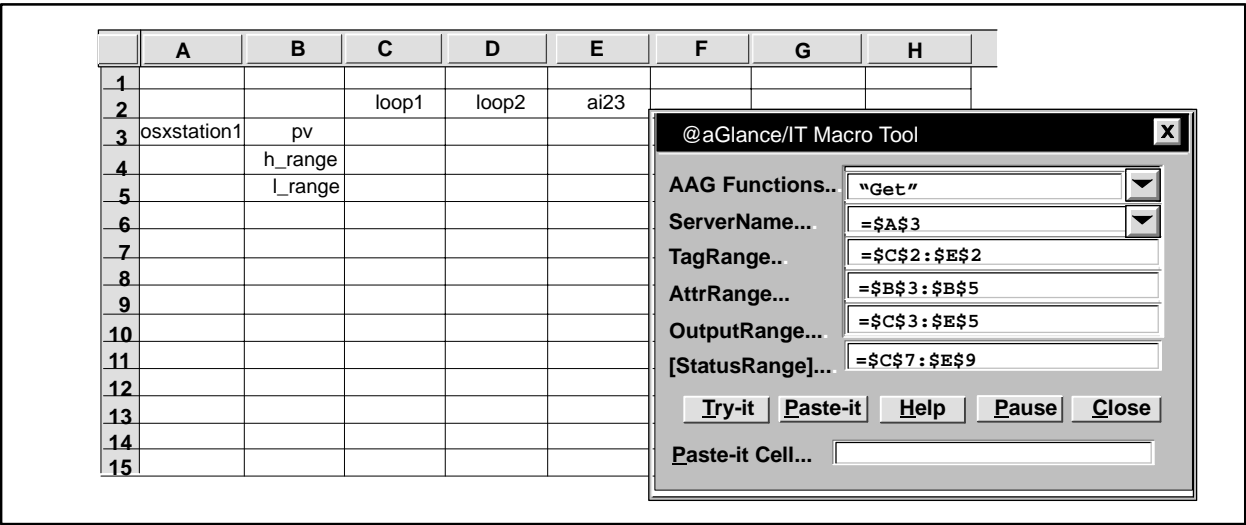

Figure A-6 Example of the Fields of a Macro Function
- For fields that do not require ranges, you can either type the data directly in the field or click a cell containing the appropriate data. In the example shown in Figure A-6, select the ServerName field and either click cell A3 or type in the server name directly.
- For fields that are identified as ranges, click the spreadsheet cell, or range of cells, that contains the data that must go into the field. Excel places the cell reference, not the data, in the field. In the example shown in Figure A-6, select the OutputRange field and drag the cursor on cells C3 to E5.
- Although most fields contained within brackets are optional, this is not invariably true for OSx. Fields that are not optional are identified within the text of this manual. In Figure A-6, the AttrRange field appears in brackets, but it is not optional for OSx.